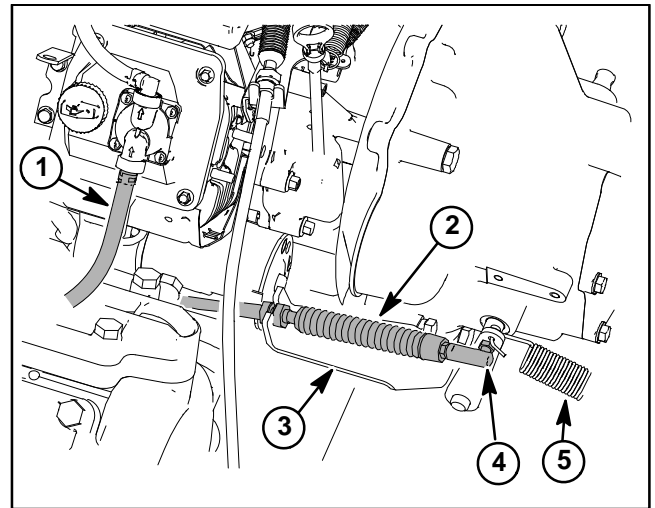
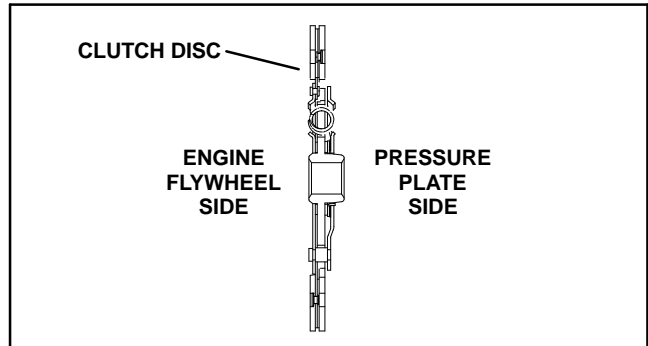

Figure 19
Figure 21
4. Remove clutch cable from bracket on clutch housing (Fig. 19). Remove ball joint lock nut and ball joint from throwout lever, loosen cable bulkhead nuts, and remove clutch cable from bracket. Remove the return spring.
5. Remove six (6) hex head screws (item) and clutch cable bracket securing bell housing assembly to adapter plate (item 1).
6. Support bell housing assembly and slide assembly rearward until output shaft (item 30) is free from clutch. Remove bell housing assembly from machine.
7. Remove six (6) hex head screws and lock washers securing pressure plate assembly (item 13) to flywheel and remove pressure plate assembly and clutch disc from engine.
8. Remove pilot bearing (item 10) from flywheel and discard bearing.
11. If necessary, remove four (4) hex head screws, lock washers, and flat washers, and remove adapter plate (item 1) from engine.
5. Position clutch disc with flat side against flywheel (Fig. 21). Position pressure plate assembly over alignment pins in flywheel. Use clutch alignment tool (see Special Tools in this chapter) and center clutch disc over pilot bearing. Secure pressure plate assembly to flywheel with six (6) hex head screws and lock washers. Tighten screws from **17 to 21 ft-lbs (23 to 28 N-m)** and remove clutch alignment tool.
6. Align output shaft with splines in clutch disc and install bell housing assembly over alignment pins in adapter plate (item 2). Fit the clutch cable bracket and R-clamp under the mounting screws and secure bell housing to adapter plate with six (6) hex head screws. Tighten screws from **55 to 65 ft-lbs (75 to 88 N-m)**.
7. Install clutch cable to bracket on clutch housing (Fig. 19). Set bulkhead nuts so an equal amount of cable housing thread appears on each side of the cable bracket and tighten bulkhead nuts. Install ball joint to throwout lever with lock nut and tighten. Install return spring. Adjust clutch cable (see Clutch Cable Adjustment in this chapter).